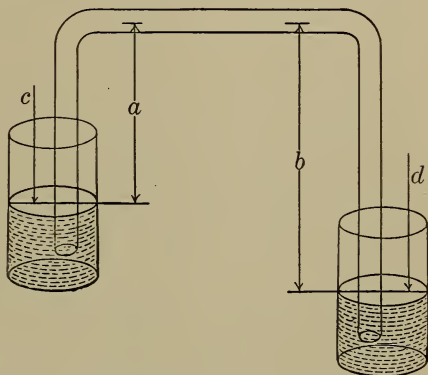

FIGURE 299. — THE SIPHON.
**319. The Siphon.** — Figure 299 represents a siphon, which consists of a tube with its ends in water, at different levels. If the tube is completely filled with liquid, the liquid will run through the tube from the higher level to the lower.